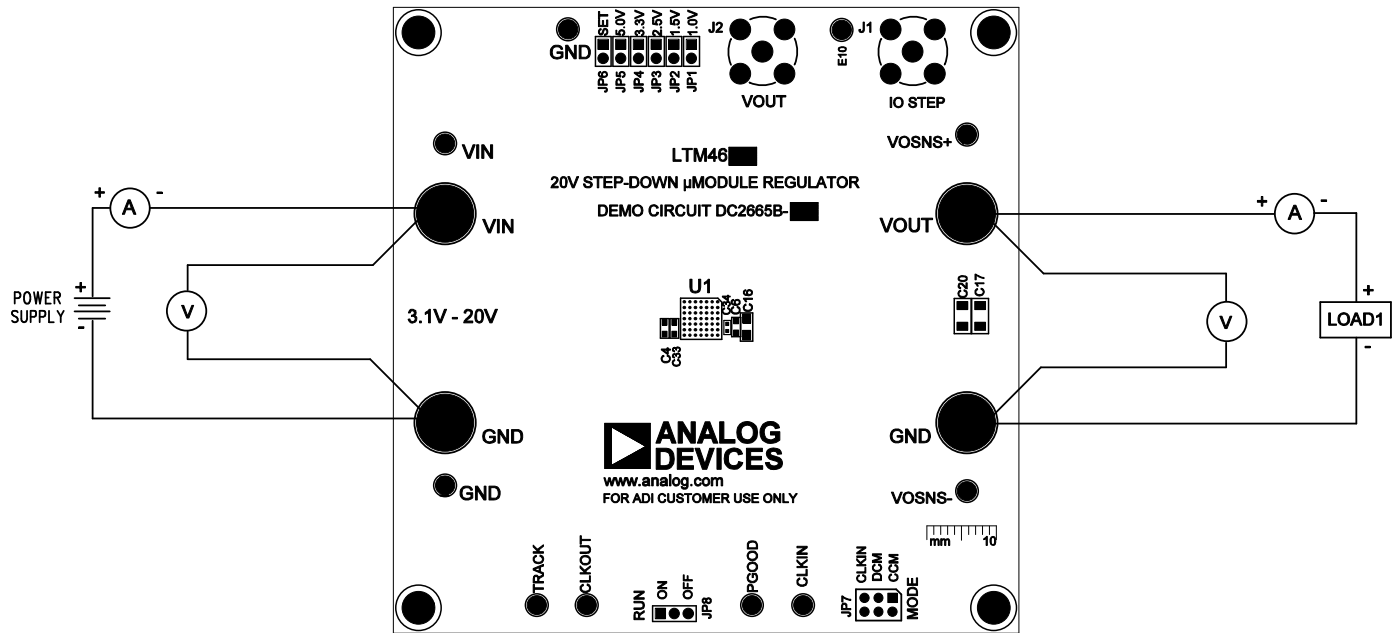

Figure 1. Test Setup of DC2665B-A
Demonstration circuit 2665B-A is an easy way to evaluate the performance of the LTM4626EY. Refer to Figure 1 for test setup connections and use the following procedure.
3. With the power off, connect the load, input voltage supply, and meters as shown in Figure 1.